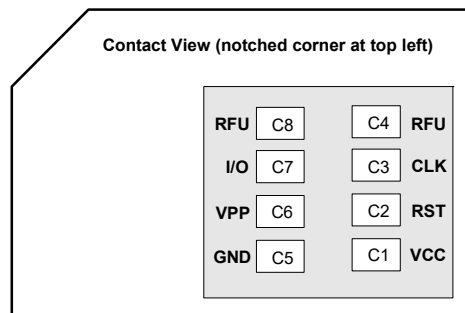

Figure 3-4: SIM Card Contacts (Contact View)
a. See Figure 3-4 on page 35 for SIM card contacts.